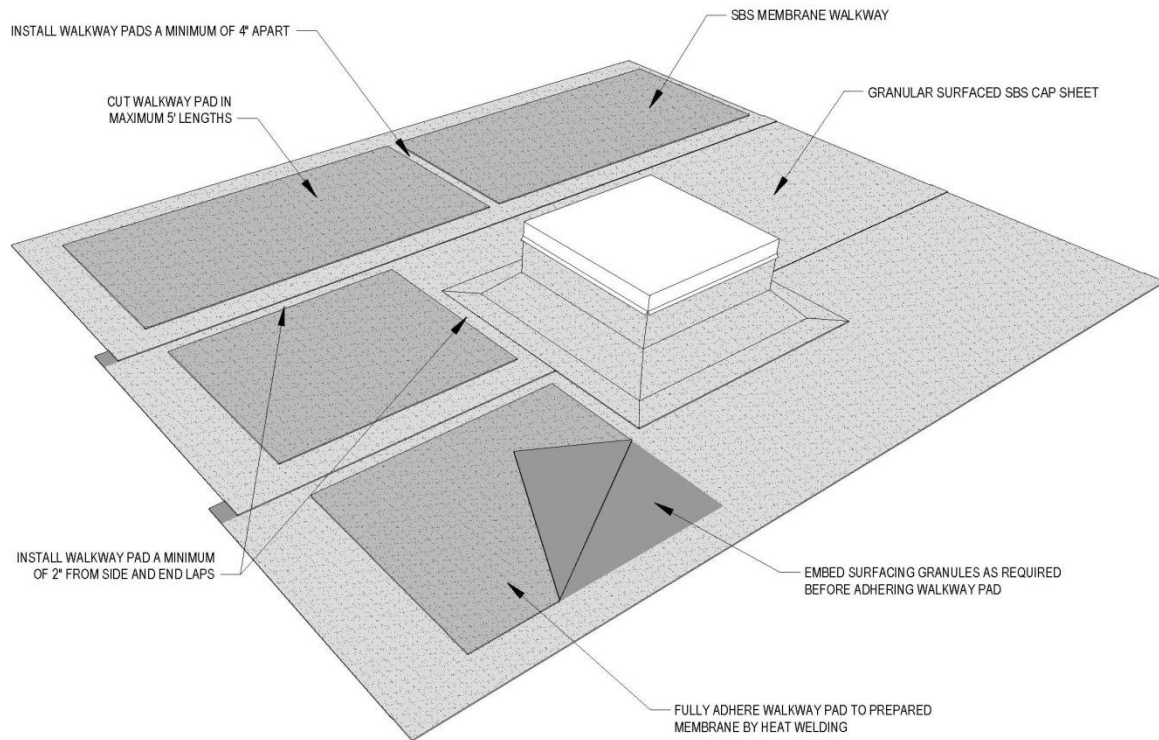

Figure 5.1a Fully Adhered, Heat Welded Walkway Membrane on Granule Surfaced Cap Sheet
- Install walkway using one of the prescribed installation methods. Refer to Table 5.1a and Figures 5.1a through 5.1h.